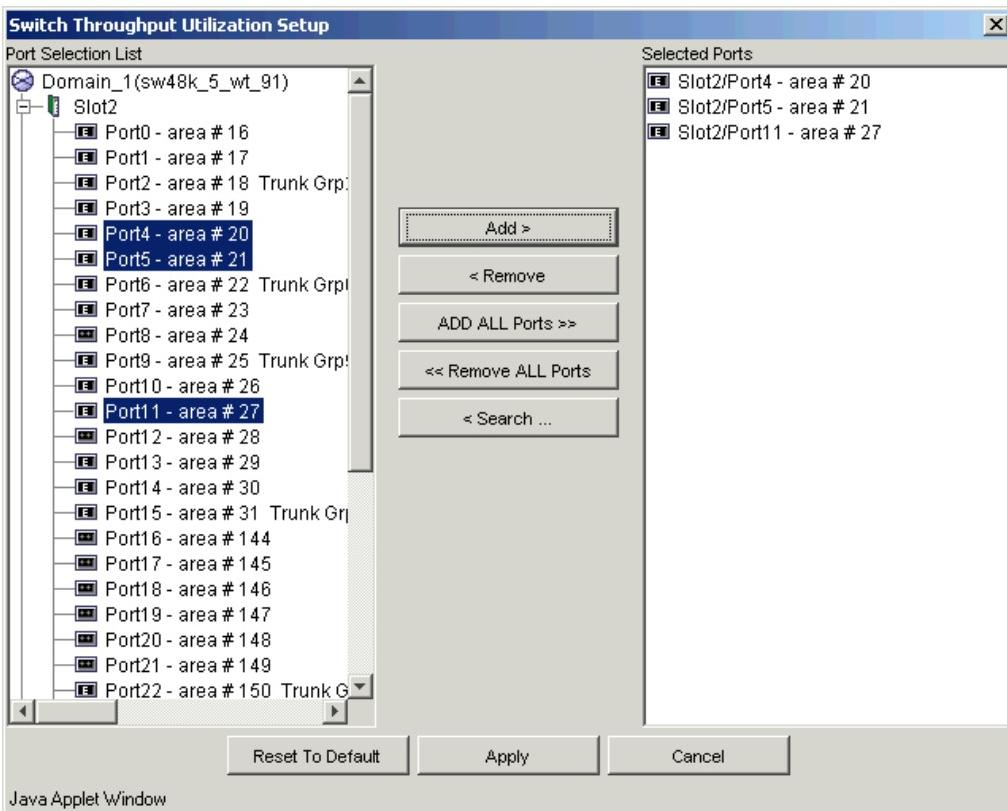

Figure 53 Switch Throughput Utilization Setup dialog box
The setup dialog box opens, as shown in Figure 53. The title of the dialog box varies, depending on the type of graph you are customizing, but the layout of the dialog box is the same. Figure 53 shows an example of the setup dialog box for the Switch Throughput Utilization graph.
- c. Double-click the domain icon  to expand the slot/port list. For the Core Switch 2/64, SAN Director 2/128, and 4/256 SAN Director, click the + signs to expand the ports under each slot, as shown in Figure 53.
The SCSI vs. IP Traffic Setup dialog box opens. This dialog box is similar to that shown in Figure 53 on page 134.
For Core Switch 2/64, SAN Director 2/128, and 4/256 SAN Director, click the + signs to expand the ports under each slot, as shown in Figure 53.